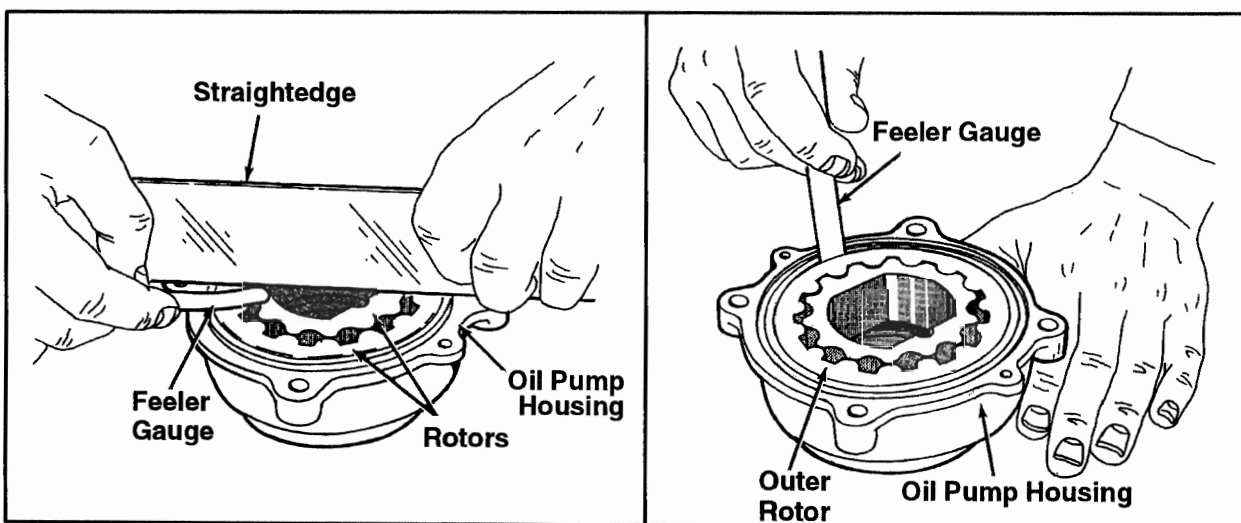

Figure 4.16. – Lube Oil Pump Inspection and Measurement
- Remove, inspect and measure clearances in the engine lube oil pump. (**Figure 4.16.**) Upon removal of the lube oil pump inspect the mating front cover surface for gouging or deep scratching, inspect the oil pump for damage or wear. Measure the "G" rotor to oil pump housing clearance. Specification is 0.028" – 0.032" (0.72 – 0.81 mm). Measure from surface of housing to "G" rotor dimension. Specification is 0.001" – 0.003" (0.2 – 0.08 mm.)